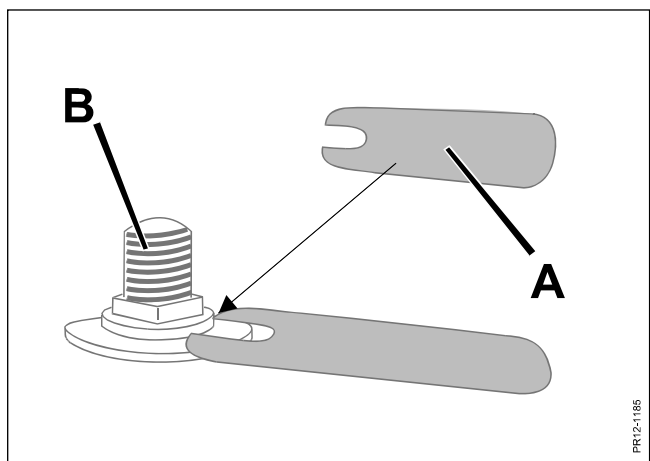

Fig. 5-11
- Fig. 5-11** In connection with replacement of blades check all blade bolts **B** on the discs regularly with the gauge **A** (in the spare parts package).